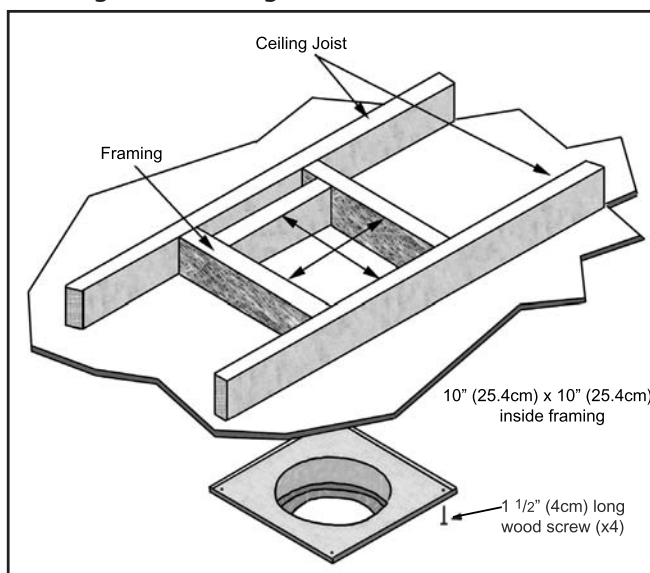
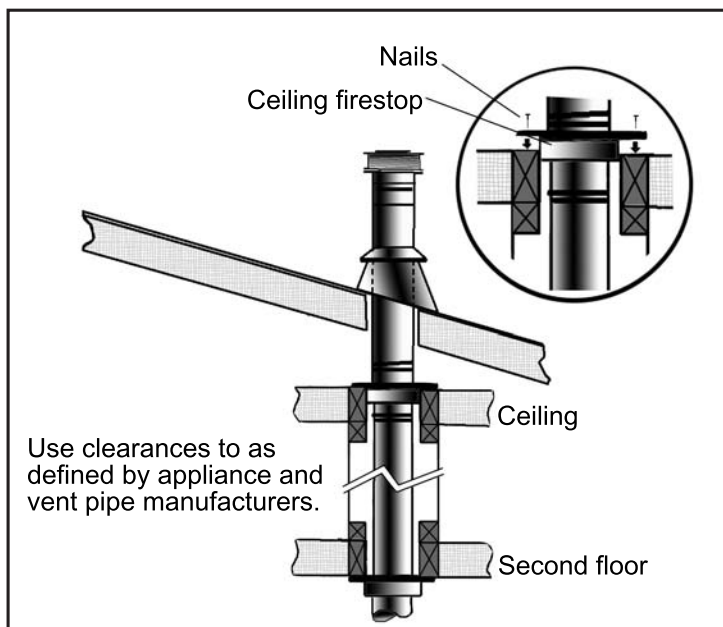

Figure 23: Wall Framing for Hole for Vertical Installation.
Figure 27: Multi-Story Vent Pipe Installation.
- STEP 3.** To install the Round Support Box/Wall Thimble in a flat ceiling, cut a 10" square hole in the ceiling, centered in the hole drilled in Step 2. Frame the hole as shown in Figure 23.
(1) For multi story installations. A ceiling firestop is required at the second floor, and any subsequent floors (see Figure 27). The opening should be framed to 10" (25.4 cm) x 10" (25.4 cm) inside dimensions, in the same manner as shown in Figure 23.